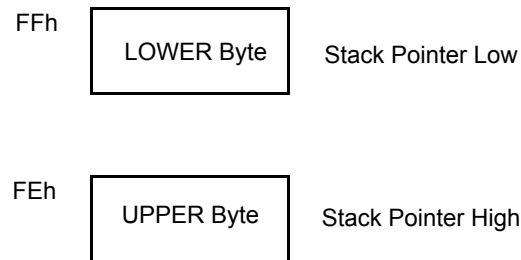

Figure 10. Stack Pointer
The register pair FEh and FFh form the 16-bit Stack Pointer (SP), that is used for all stack operations. The stack address is stored with the MSB in FEh and LSB in FFh, see Figure 10.